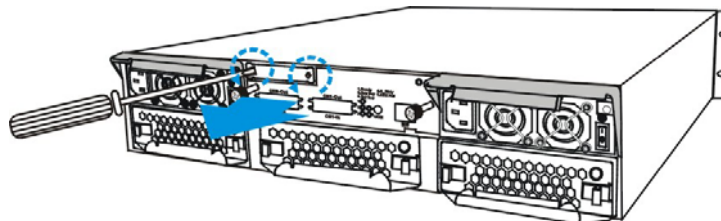

Figure 2-2: Loosening the Metal Sheet Retention Screws
- Step 1. Using a screwdriver, *loosen the two (2) retention screws located on both sides of the dummy plate.* (See *Figure 2-2*)